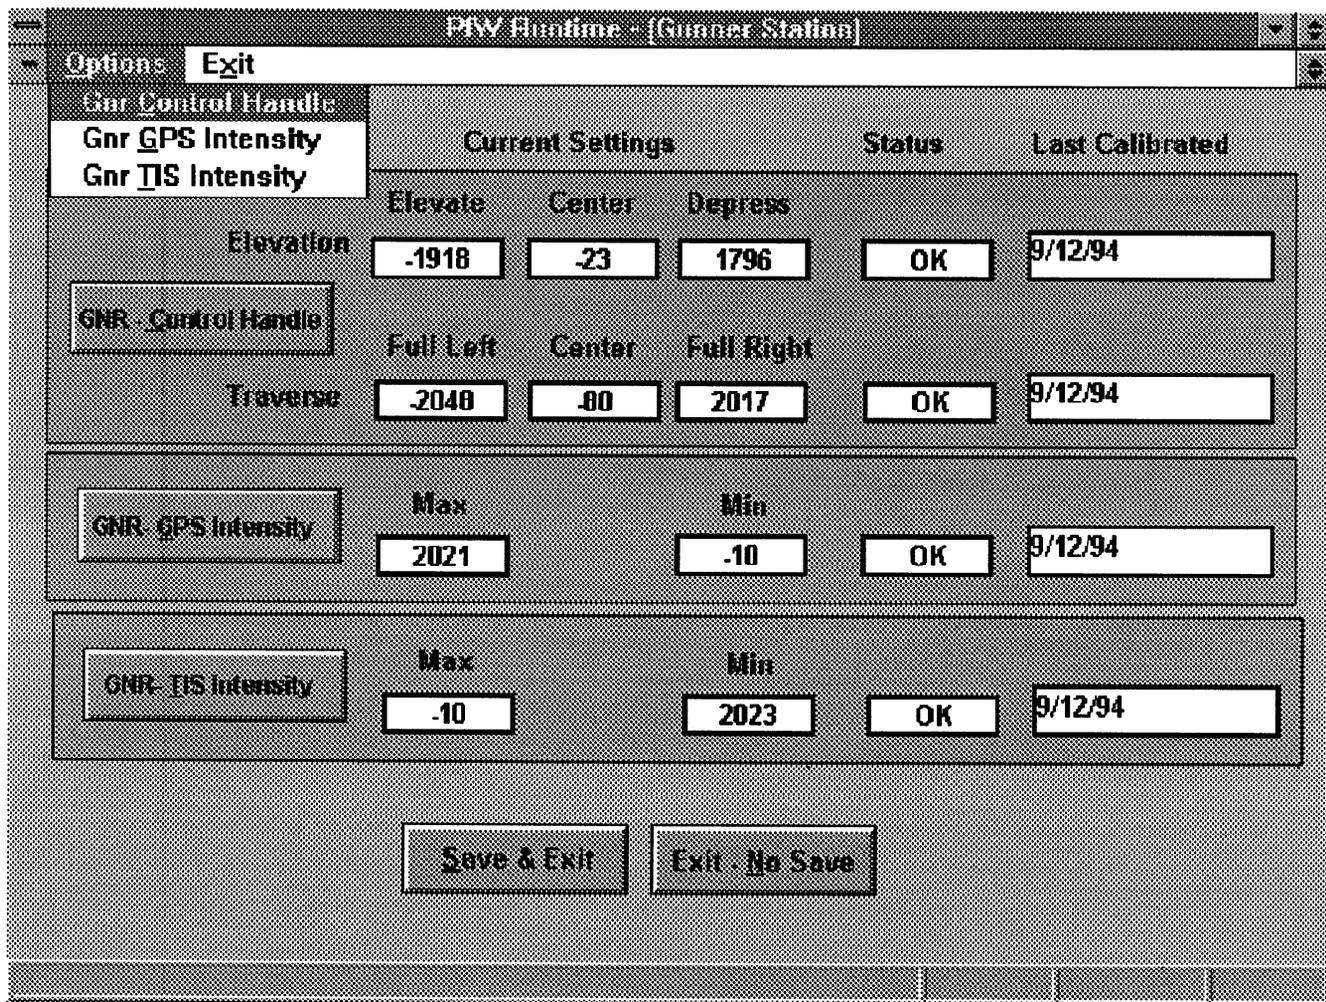

Figure 2-102. Gunner Station Screen
- a. At the Calibrate/Recalibrate Screen, click on the Gunner Station button or select GNR Station from the pull-down Options menu. The Gunner Station Screen, Figure 2-102, displays.